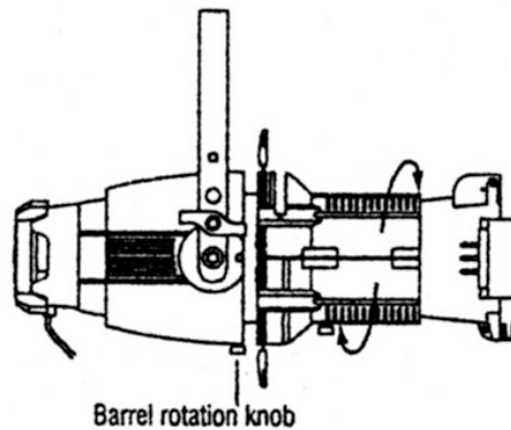

Fig. 12
1. Loosen the barrel rotation knob directly behind the shutters on the underside of the reflector housing (Fig. 12). Do not remove the barrel rotation knob.